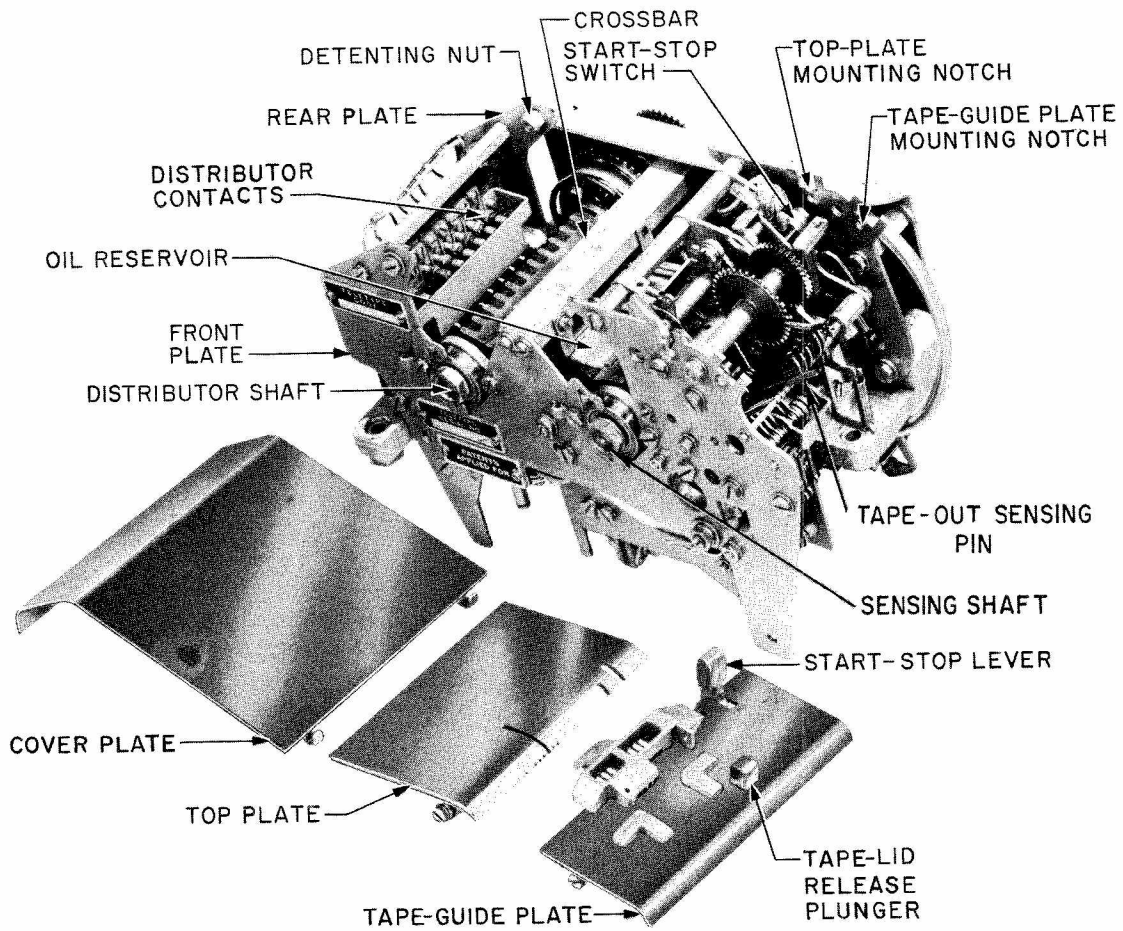

Figure 2 - Sensing and Transmitting Mechanism - Top View
unhook the springs attached to the underside of the crossbar. Remove the four screws that secure the crossbar to the front and rear plates and lift the oil reservoir assembly upward. (See Figure 2.)
2.10 **Distributor Shaft Assembly:** To remove the distributor shaft, remove the three mounting screws that secure each bearing clamp to the front and rear frames. (See Figure 2.)
2.11 **Sensing Shaft Assembly:** To remove the sensing shaft, remove the three mounting screws that secure each bearing clamp to the front and rear plates. (See Figure 2.)